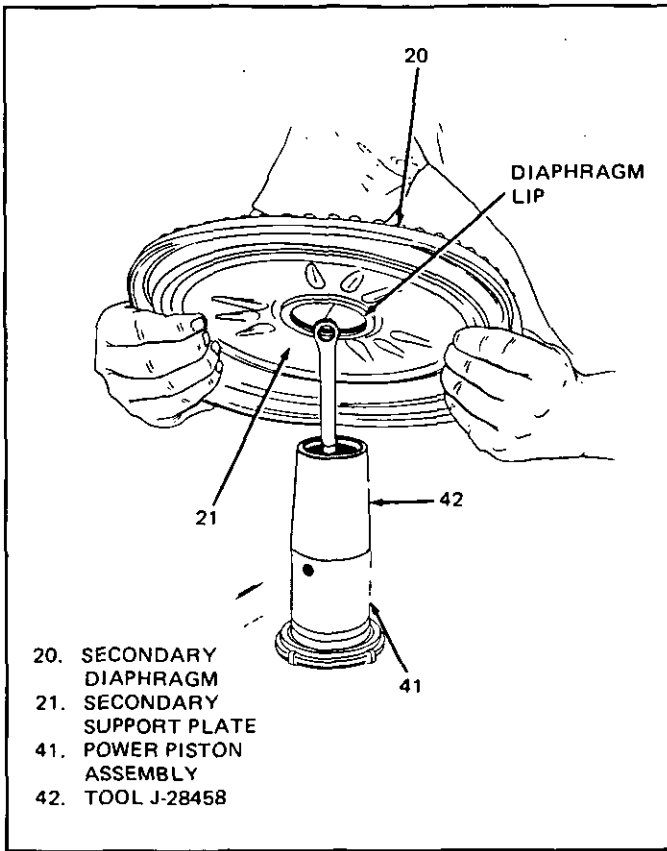
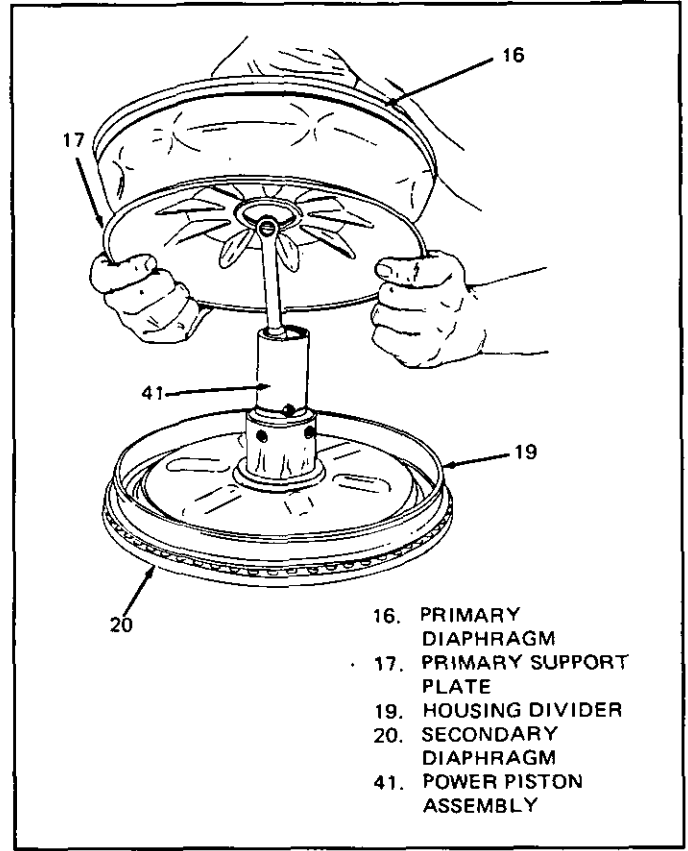
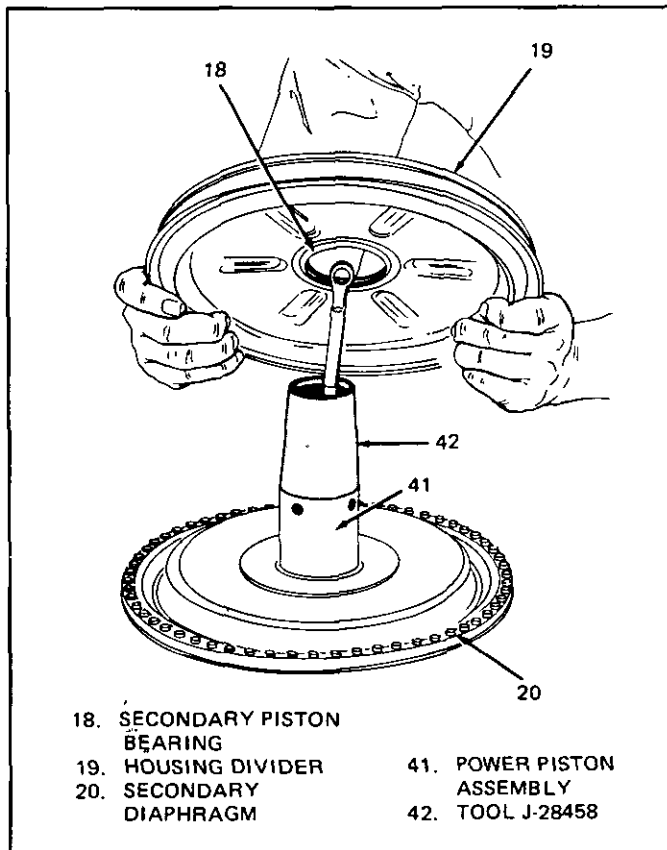

Figure 8 Secondary Diaphragm and Support
Figure 10 Primary Diaphragm and Support
Figure 9 Secondary Piston Assembly
1. Lubricate inside diameter of secondary diaphragm (20) lip and fit into secondary support plate (21).
2. Secondary diaphragm (20) and support plate (21) as shown in Figure 8
3. Lubricate inside diameter of secondary piston bearing (18) and install in housing divider (19) with flat surface of bearing on same side as 6 raised lugs on divider.
4. Secondary piston bearing (18) and divider (19) as shown in Figure 9
5. Lubricate inside diameter of primary diaphragm (16) lip and fit in primary support plate (17).
6. Primary diaphragm (16) and support plate (17) as shown in Figure 10